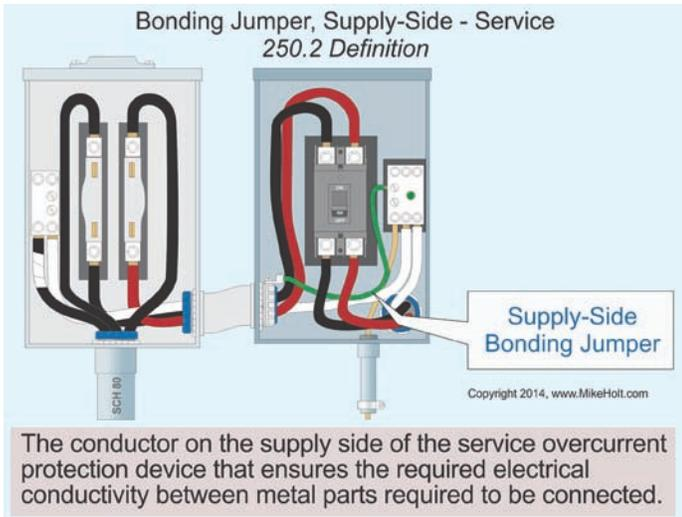

Figure 250-1
**Bonding Jumper, Supply-Side.** The conductor on the supply side of the service or separately derived system overcurrent protection device that ensures electrical conductivity between metal parts and the grounded conductor. Figures 250-1 and 250-2